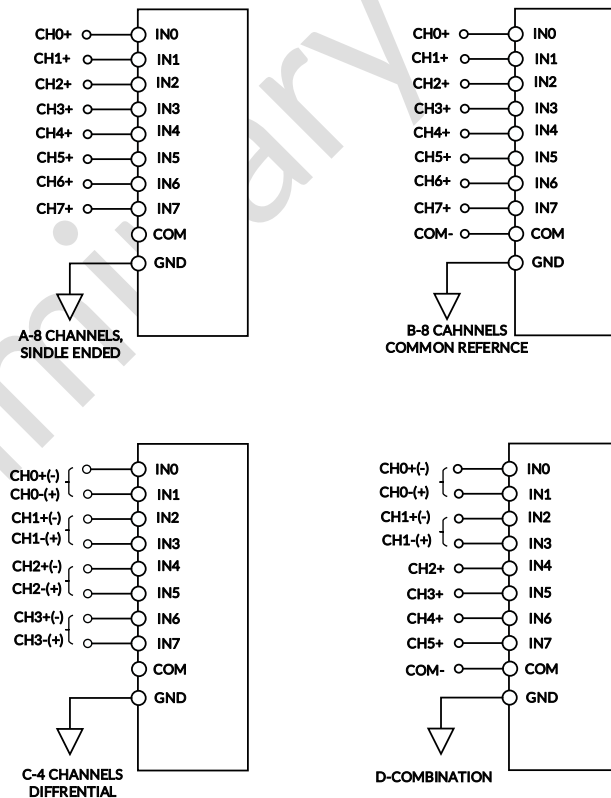

Figure 28. Multiplexed Analog Input Configurations
Figure 28 shows the different methods for configuring the analog inputs with the configuration register, CFG[12:10]. Refer to the Configuration Register, CFG section for more details. The analog inputs can be configured as shown in the following figures:
- Figure 28 (A), single-ended referenced to system ground, CFG[12:10] = 111₂. In this configuration, all inputs (IN[7:0]) have a range of GND to V_{REF}.
- Figure 28 (B), bipolar differential with a common reference point, COM = V_{REF}/2, CFG[12:10] = 010₂. Unipolar differential with COM connected to a ground sense; CFG[12:10] = 110₂. In this configuration, all inputs IN[7:0] have a range of GND to V_{REF}.
- Figure 28 (C), bipolar differential pairs with the negative input channel referenced to V_{REF}/2, CFG[12:10] = 00X₂. Unipolar differential pairs with the negative input channel referenced to a ground sense, CFG[12:10] = 10X₂. In these configurations, the positive input channels have the range of GND to V_{REF}. The negative input channels are a sense referred to V_{REF}/2 for bipolar pairs, or GND for unipolar pairs. The positive channel is configured with CFG[9:7]. If CFG[9:7] is even, then IN0, IN2, IN4, and IN6 are used. If CFG[9:7] is odd, then IN1, IN3, IN5, and IN7 are used, as indicated by the channels with parentheses in Figure 28 (C). For example, for IN0/IN1 pairs with the positive channel on IN0, CFG[9:7] = 000₂. For IN4/IN5 pairs with the positive channel on IN5, CFG[9:7] = 101₂. Note that for the sequencer, detailed in the Channel Sequencer section, the positive channels are always IN0, IN2, IN4, and IN6.
- Figure 28 (D), inputs configured in any of the preceding combinations (showing that the RS1438 can be configured dynamically)